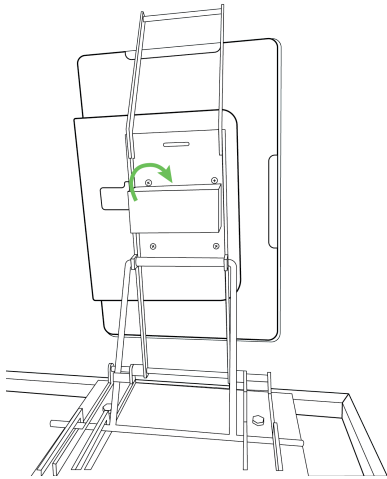

Figure 6-54. The Elo Touchscreen mounted to the kickstand
1. Align the mounting holes of the Elo Touchscreen to the mounting holes of the kickstand plate. Using a #2 screwdriver, secure the touchscreen on the plate with four M4 screws (Figure 6-54).